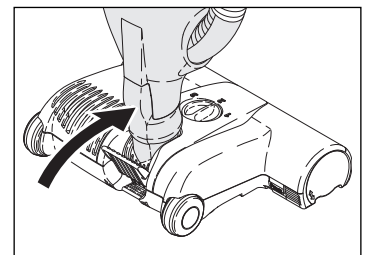
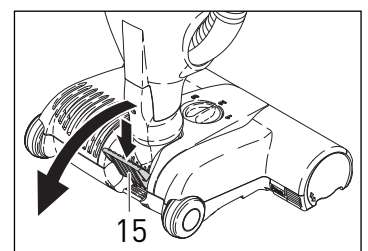
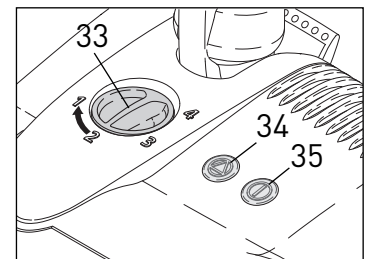

Figure 6
Figure 7
Figure 11
A. When the power head is switched on with the swivel neck (figure 6) in the upright locked position, the brush roller will not spin and no lights will show. To release the power head from the upright locked position, press down on the foot pedal (15, figure 7) and lower the swivel neck into the normal operating position. If the brush roller does not start, push the on/off button (35, figure 11). The brush roller will then start spinning and the on/off light on the power head will illuminate in green. If the on/off button is OFF, the light will illuminate yellow. The handle can be lowered to a horizontal position useful for vacuuming under beds.
B. To clean delicate or hard floor surfaces with straight suction only, the power head is equipped with an on/off switch (35, figure 11). When this switch is used to turn off the brush roller, the green light will change to yellow, indicating to the user that the brush roller is not turning. Pushing the button again will turn on the brush roller and the light will turn green.
NOTE: The brush roller is off and stopped only when the machine is in an upright position and the handle is completely locked in place, or when the hose handle is removed from the side of the vacuum. If you have the machine at an angle, the brush roller will spin. Leaving the machine in a stationary position for an extended period of time while the brush roller is spinning may cause damage to your floor or carpet. You may also switch off the brush roller by pressing the on/off switch (35, figure 11) on the top of the power head.
Brush Obstruction Light & Auto Shut Off – Figure 11
The Brush Height Adjustment Feature - Figure 11
Indicator Lights - Figure 11
By pushing the foot pedal (figure 7) and lowering the handle, you activate the power head and the brush begins spinning. Failure to use the foot pedal will cause lasting damage to the machine. The electronic brush control constantly monitors the status of the brush, communicating the status through the lights on top.
(35, figure 11)
(34, figure 11)